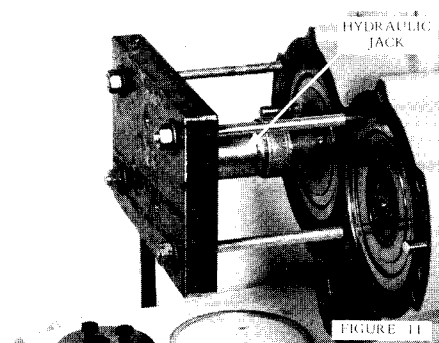

FIGURE 11
Make a rotor press plate as shown in sketch. With plate and hydraulic jack rigged as shown in Figure 11, press the rotor shafts through the discharge end bearings. Be sure the rotor is well supported so it does not fall when shaft clears bearing. Use a shaft protector between end of shaft and jack to prevent shaft damage. The studs supporting the press plate to the discharge end plate must be long enough for longest rotor shaft extension plus hydraulic jack and plate thickness.
10. Install the bearing cover plate, shown in Figure 11, and pull up tight. With a feeler gauge check the rotor end clearance of both rotors at the inlet end, Figure 10. Refer to clearance chart for correct value. Due to machining tolerance at inlet end of the cylinder, rotors may vary in inlet end clearance up to .010". Do not allow clearance below the minimum listed in clearance chart. Cover the inlet opening to keep out dirt.
- (b) With four (4) jack bolts, pull end plate and rotor assembly (complete) from the cylinder dowel pins.
- (c) Lift assembly from the cylinder approximately two (2) inches.
- (d) With feeler gauge check clearance between the end of the rotors and the end plate, Figure 11. See note on variation of discharge end clearance at the end of Step 6.